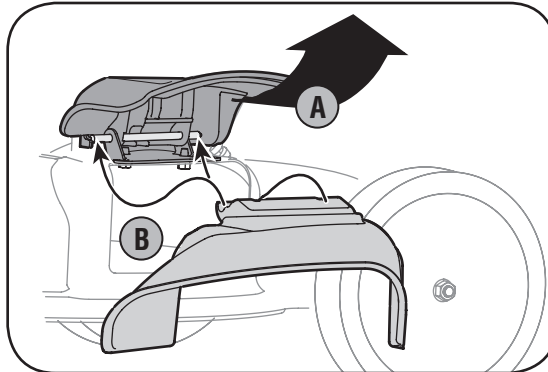

Figure 3-7: Lift mulch plug and install side discharge chute.
- a. On the side of the mower, lift the mulching plug. See Figure 3-7.